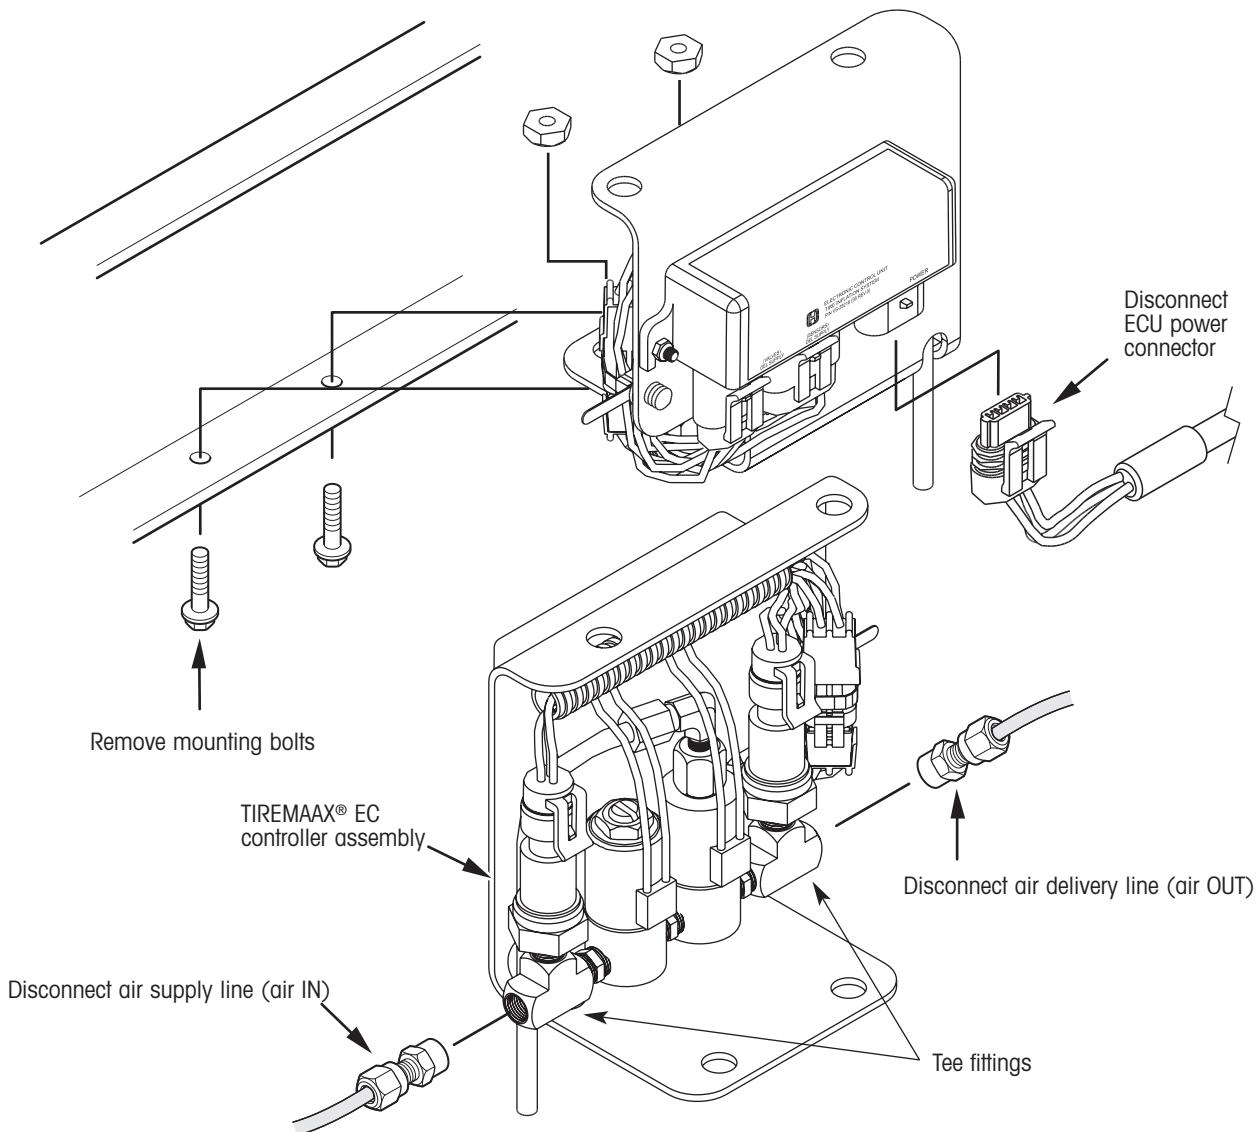

Figure 1. Removing an existing TIREMAAX EC controller assembly
2. Disconnect the ECU power connector (figure 1).